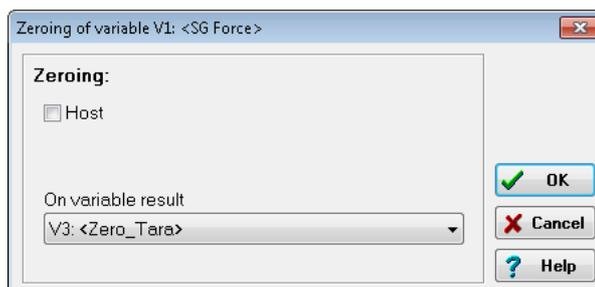

Fig. 5-4 Setting up zero balance or tare.
- Select the variable created above as the control variable (Fig. 5-4).